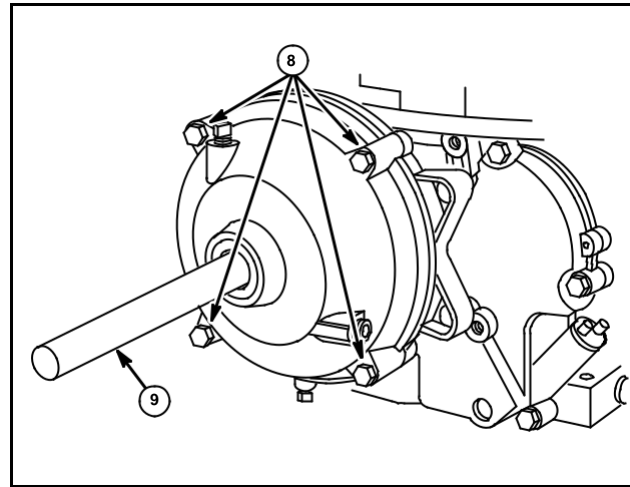

Fig. 38
12. Torque cover screws (8) to 190 in. lbs. (21 Nm), Fig. 38.